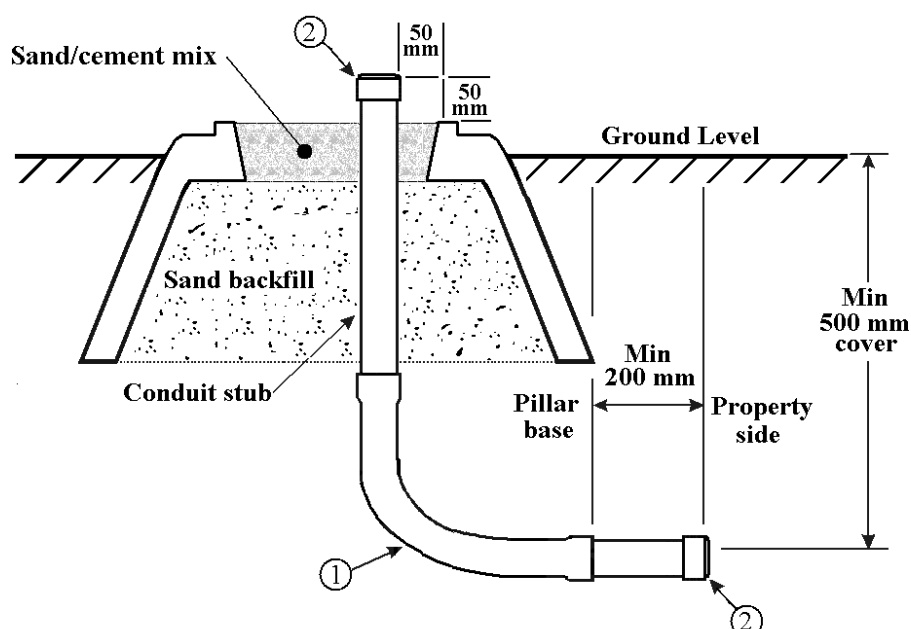

Figure 25.3 - Conduit Stub Details
9. Refer to Figure 25.3 for service conduit stub details (if applicable).
12. A conduit stub shall be installed in accordance with Figure 25.3 for each cable that has not been initially laid prior to the installation of the pillar noting the following: